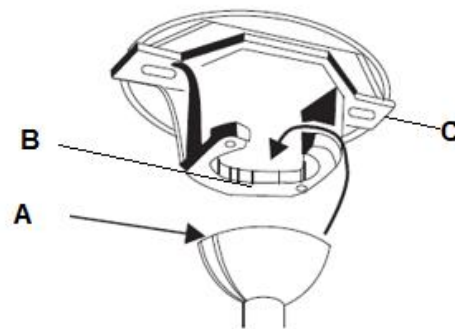

Fig. 6
Lift the fan assembly onto the mounting bracket. Ensure the key slot (A) of the hanger ball is positioned on the key pin (B) of the mounting bracket (C) to prevent the fan from rotating when in operation. (Fig.6)
- Hang the fan \(Refer to "hanging the fan" Fig. 6, page 6\).